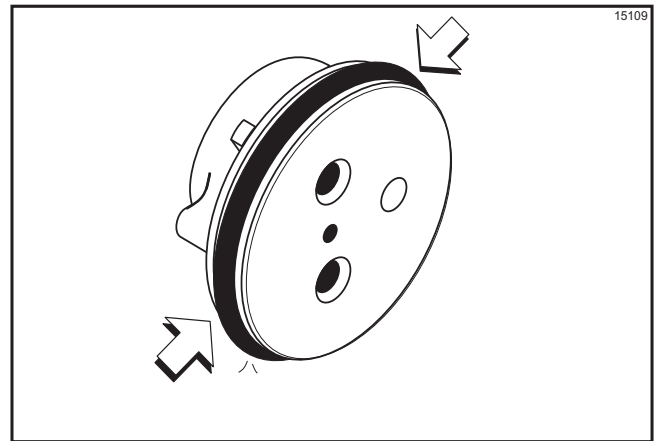

Figure 6-26
5. Assemble the valve cap. Slide the red O-ring into the groove of the valve cap. **Do not** lubricate the O-ring. (See Figure 6-26.)